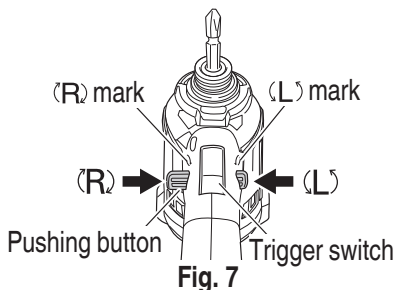

Fig. 7
The bit rotates clockwise (viewed from the rear side) by pushing the R-side of the pushing button. The L-side of the pushing button is pushed to turn the bit counterclockwise (See Fig. 7) (The (L) and (R) marks are provided on the body).